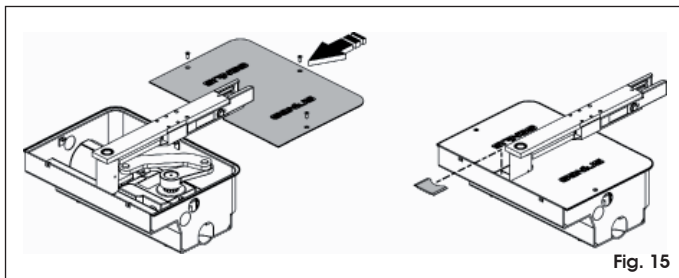

Fig. 15
- 4. Fasten the box cover by means of the screws supplied (Fig. 15).